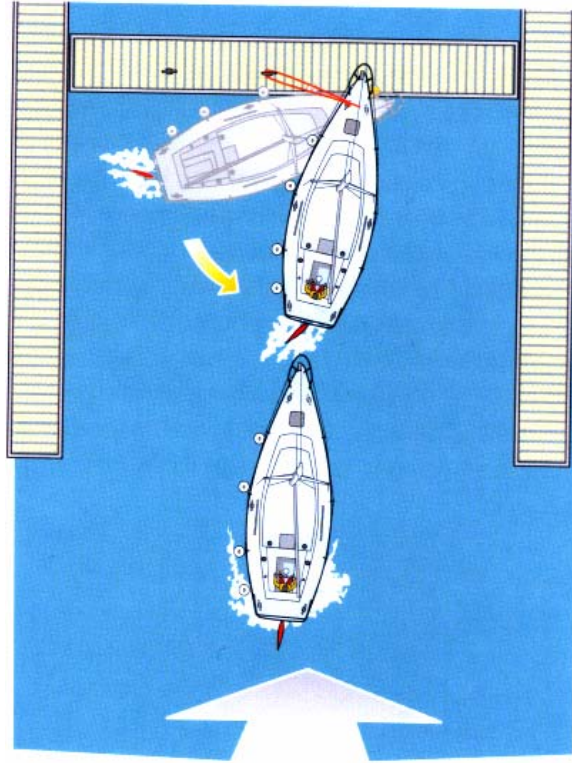

Figure 11 Slipping a Jetty, Strong On-Jetty Wind, Stern First
4. Increase the throttle and steer toward the jetty until the stern has swung out far enough to proceed. If the wind is strong, continue to swing the stern out until it is directly into the wind (as illustrated in Figure 11).